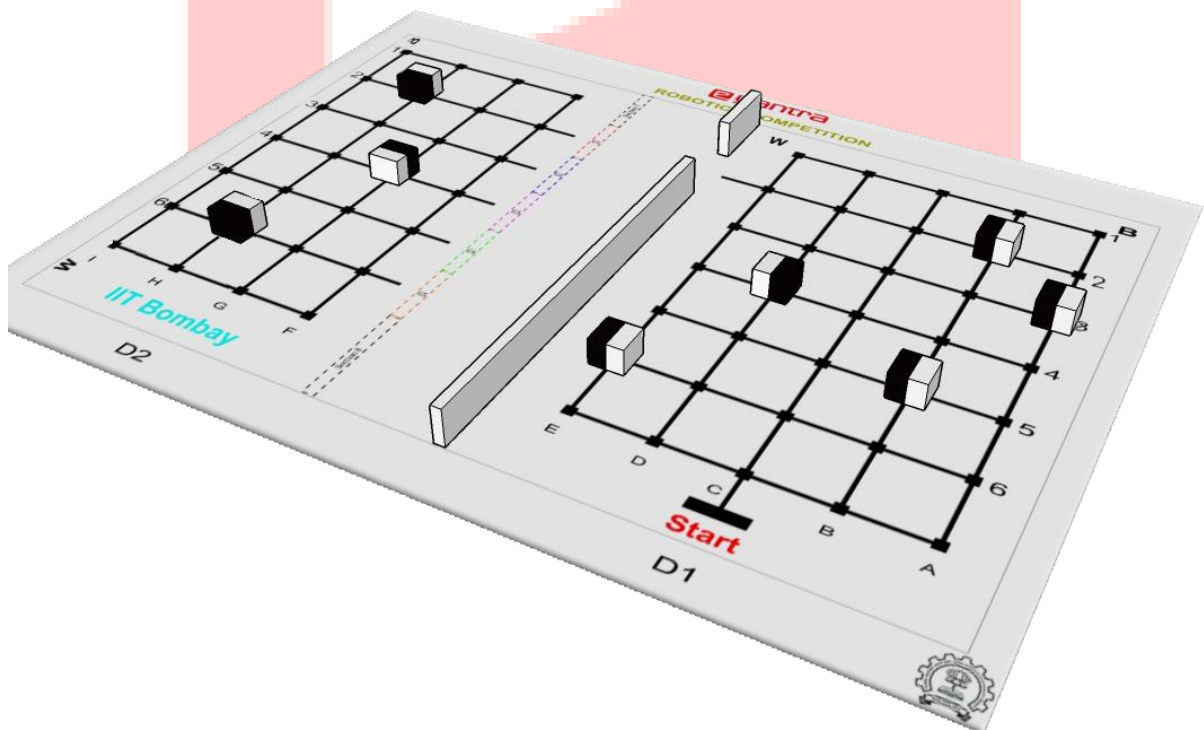

Figure 7: Placement of Wall 1
- After placing all these units for Wall 1, the arena will look like Figure 7.